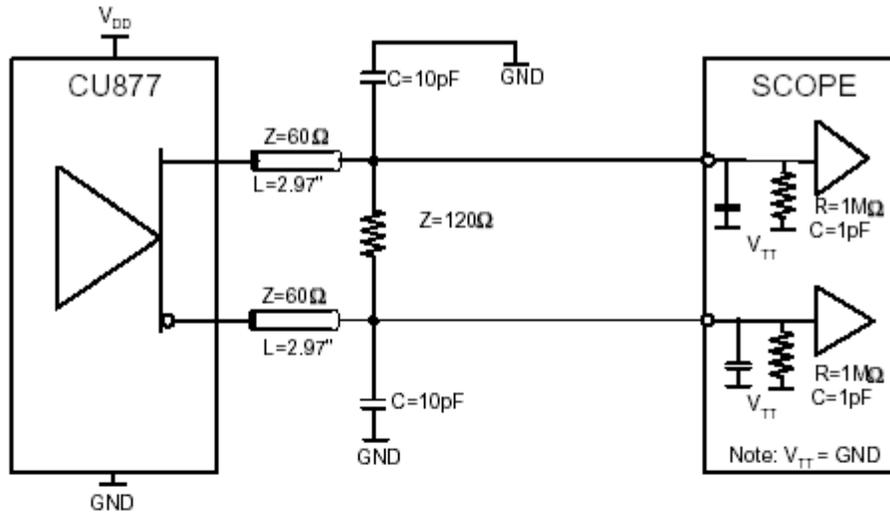
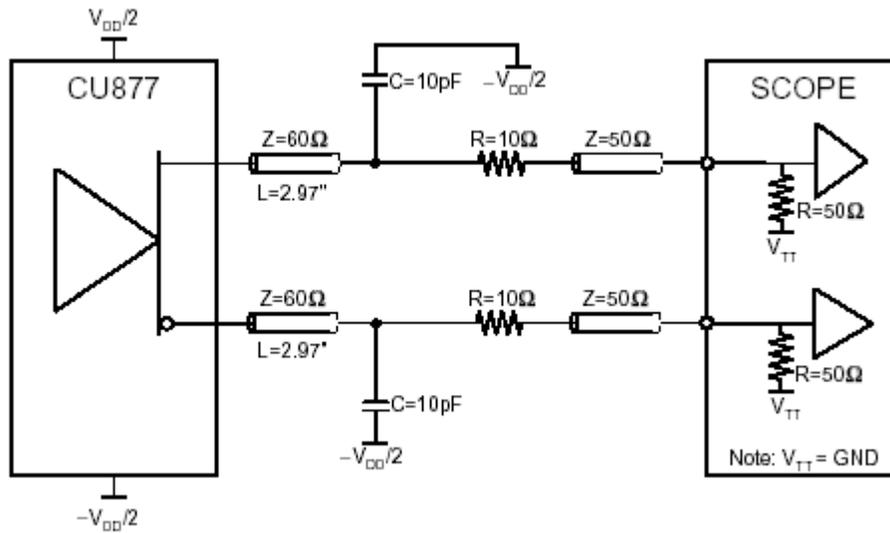

Figure 2. Output Load Test Circuit 1
Figure 3. Output Load Test Circuit 2
- NOTE 1: There are two different termination that are used with the following tests. The load/board in Figure 2 is used to measure the input and output differential-pair cross voltage only. The load/board in Figure 3 is used to measure all other tests. For consistency, equal length cables should be used.
- The output slew rate is determined from the IBIS model into the load shown in Figure 3.